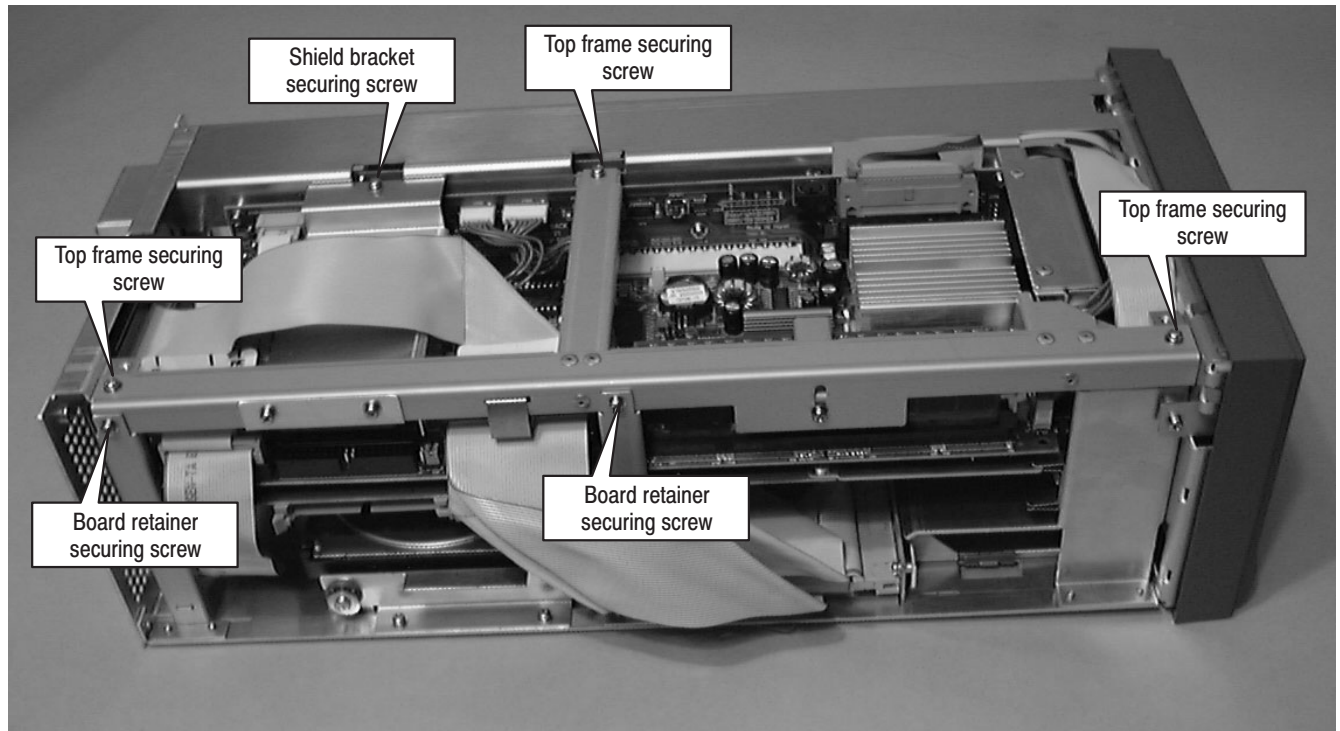

Figure 2: Board retainers and top frame with shield bracket
6. Use a screwdriver with a #2 Phillips tip to remove each screw securing the board retainers to the chassis. See Figure 2.
8. Use a screwdriver with a #2 Phillips tip to remove the four screws securing the top frame with shield bracket. See Figure 2.